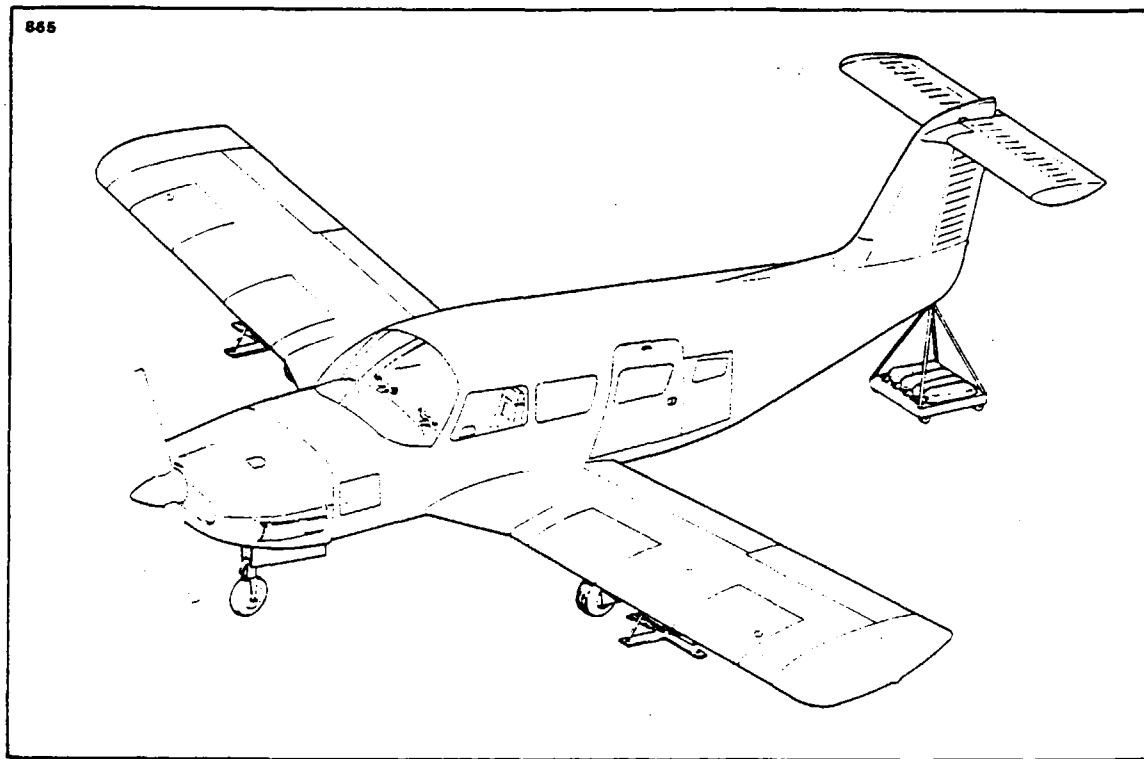

Figure 2-6. Jacking Arrangement
- a. Place the jacks under jack pads on the front wing spar. (Refer to Figure 2-6.)